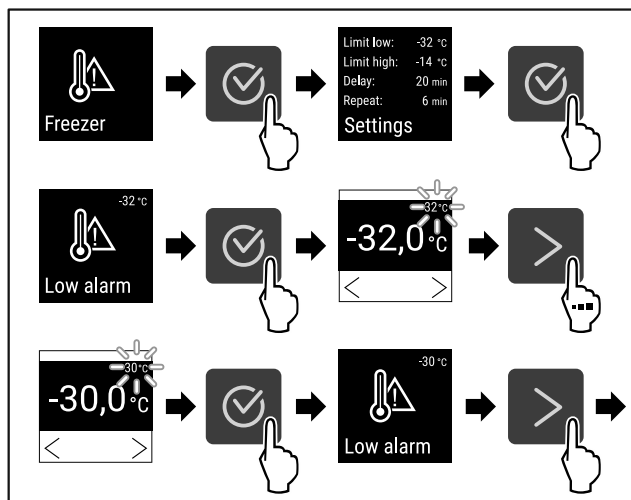

Fig. 97
- Complete steps (see Fig. 97).